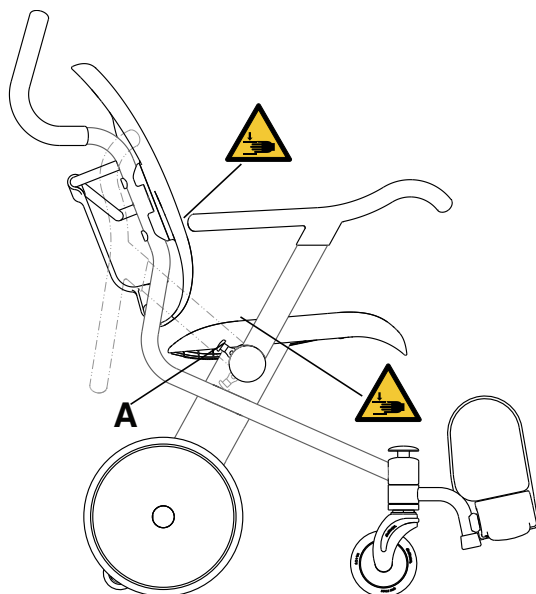

Figure 9 – Pinch points when raising armrests and lowering armrests
To raise the flip-up armrests (rear position), pull outward on the yellow armrest release button (A) and raise the flip-up armrest until the armrest reaches the hard stop (Figure 9).
To lower the flip-up armrests (forward position), make sure that the occupant is clear of the flip-up armrest. Lower the flip-up armrest into the forward position until the armrest latches securely (Figure 9).